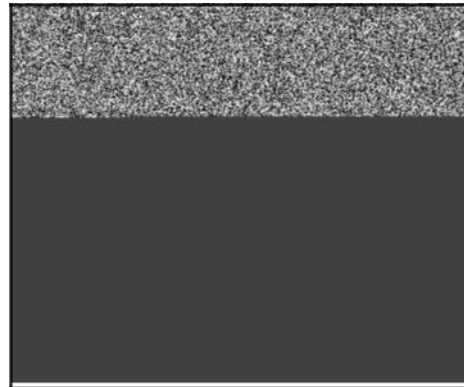

Figure 15
5. Lubricate outside diameter of new ball bearing. Place ball bearing on support (A, Figure 15).
6. Assemble washer (C) to puller screw (D). Insert large end pilot (B) into oil seal boss in crankcase cover.